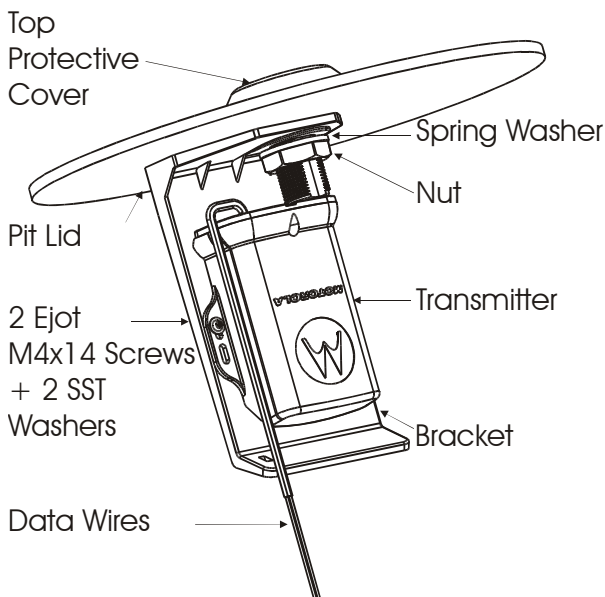

Figure 6
8. Insert the antenna (attached to the transmitter) downwards through the antenna hole at the bottom of antenna cover (see Figure 6) until the transmitter housing meets the threaded base of the antenna cover.